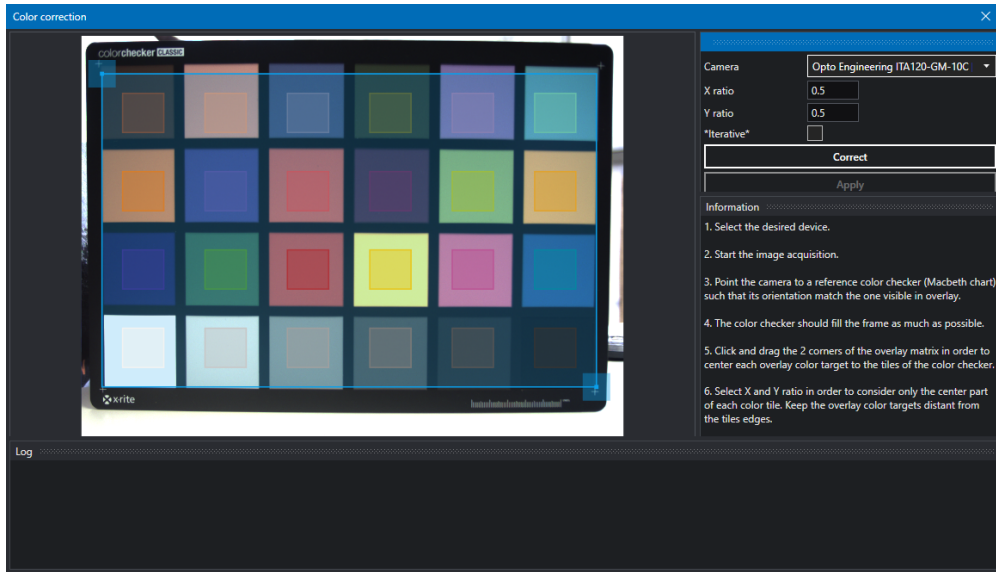

Figure 24: For optimal results, make sure to align the wizard color mask to the Macbeth color chart tiles.
5. The color checker should fill the frame as much as possible (Fig.24).